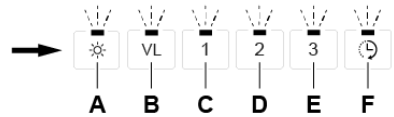

Fig. 12
- The LEDs for all the buttons will flash to indicate successful reprogramming of the operating mode, see Fig. 12.